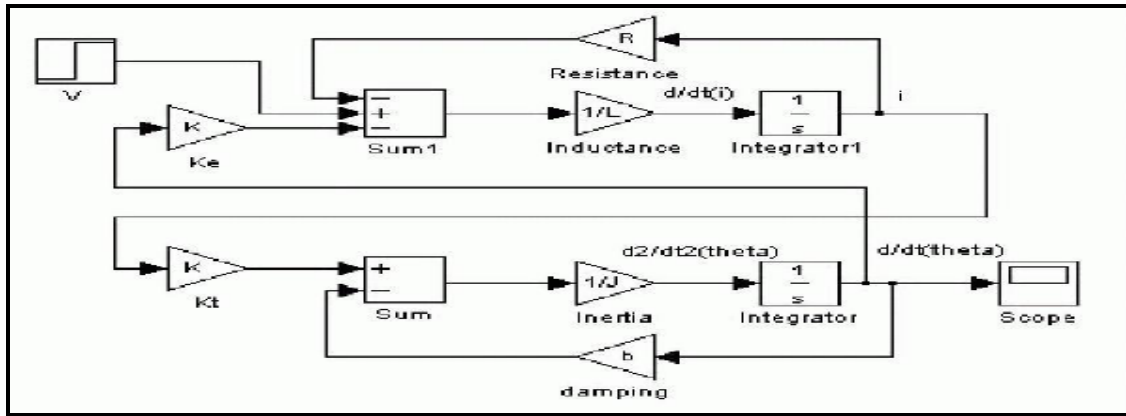

Figure 5: The Model of Armature controller DC motor
- The Model of DC motor shown in Figure 5 was built in Simulink used some liberals and the parameter of it were set in “model parameter” and the system was run to study different concepts about DC motor, which is the speed and Current of the DC motor at different value of Armature resistor, different torque, and different input voltage.